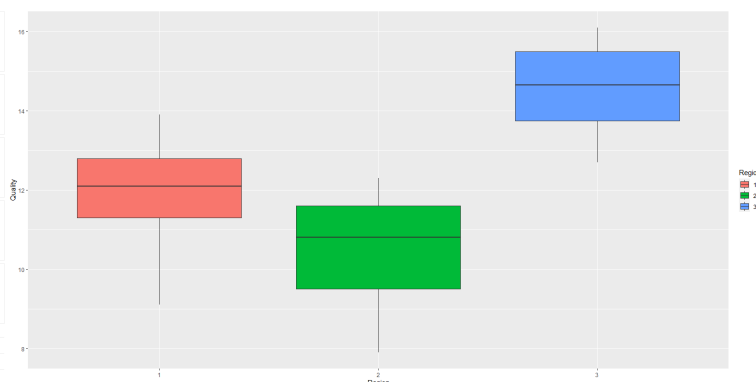
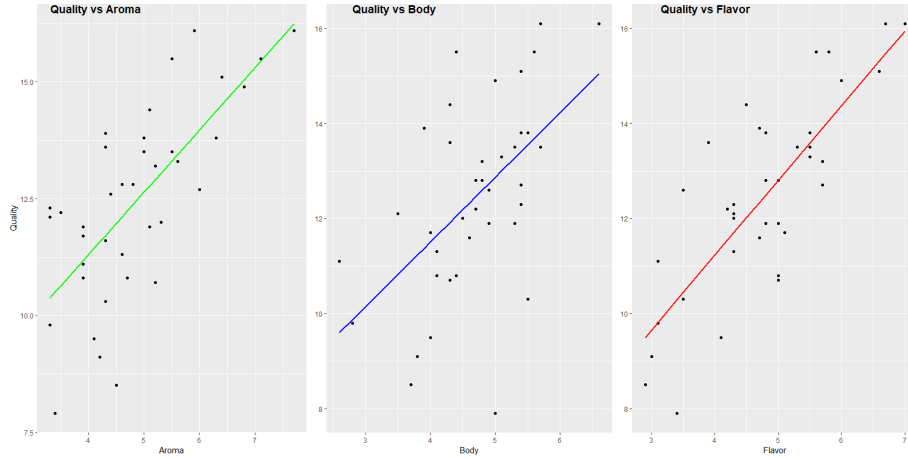

Figure 3: Quality by Region
Figure 6: Quality vs Continuous Predictors
On Figure 3 we present the Quality boxplots by Region. Pay attention to the clear distribution of Quality by Region (high on 3, medium on 1, low on 2). This fact evidences the importance of this predictor for determining the Quality of a wine.
**Question 1.c** We fitted a simple linear regression model for every predictor (Tables 1 to 6). Taking a look to the p-values of every model we can affirm that there is a statistically significant association between the predictor and the response variable on all models except for the models with predictors Clarity (p-value = 0.865) and Oakiness (p-value = 0.779). This is consistent with our previous exploration. We can see on Figure 6 how there is a clear linear relation for predictors Flavor, Aroma and Body. Also we discussed on question 1.a how Region is relevant to predict Quality (Figure 3).